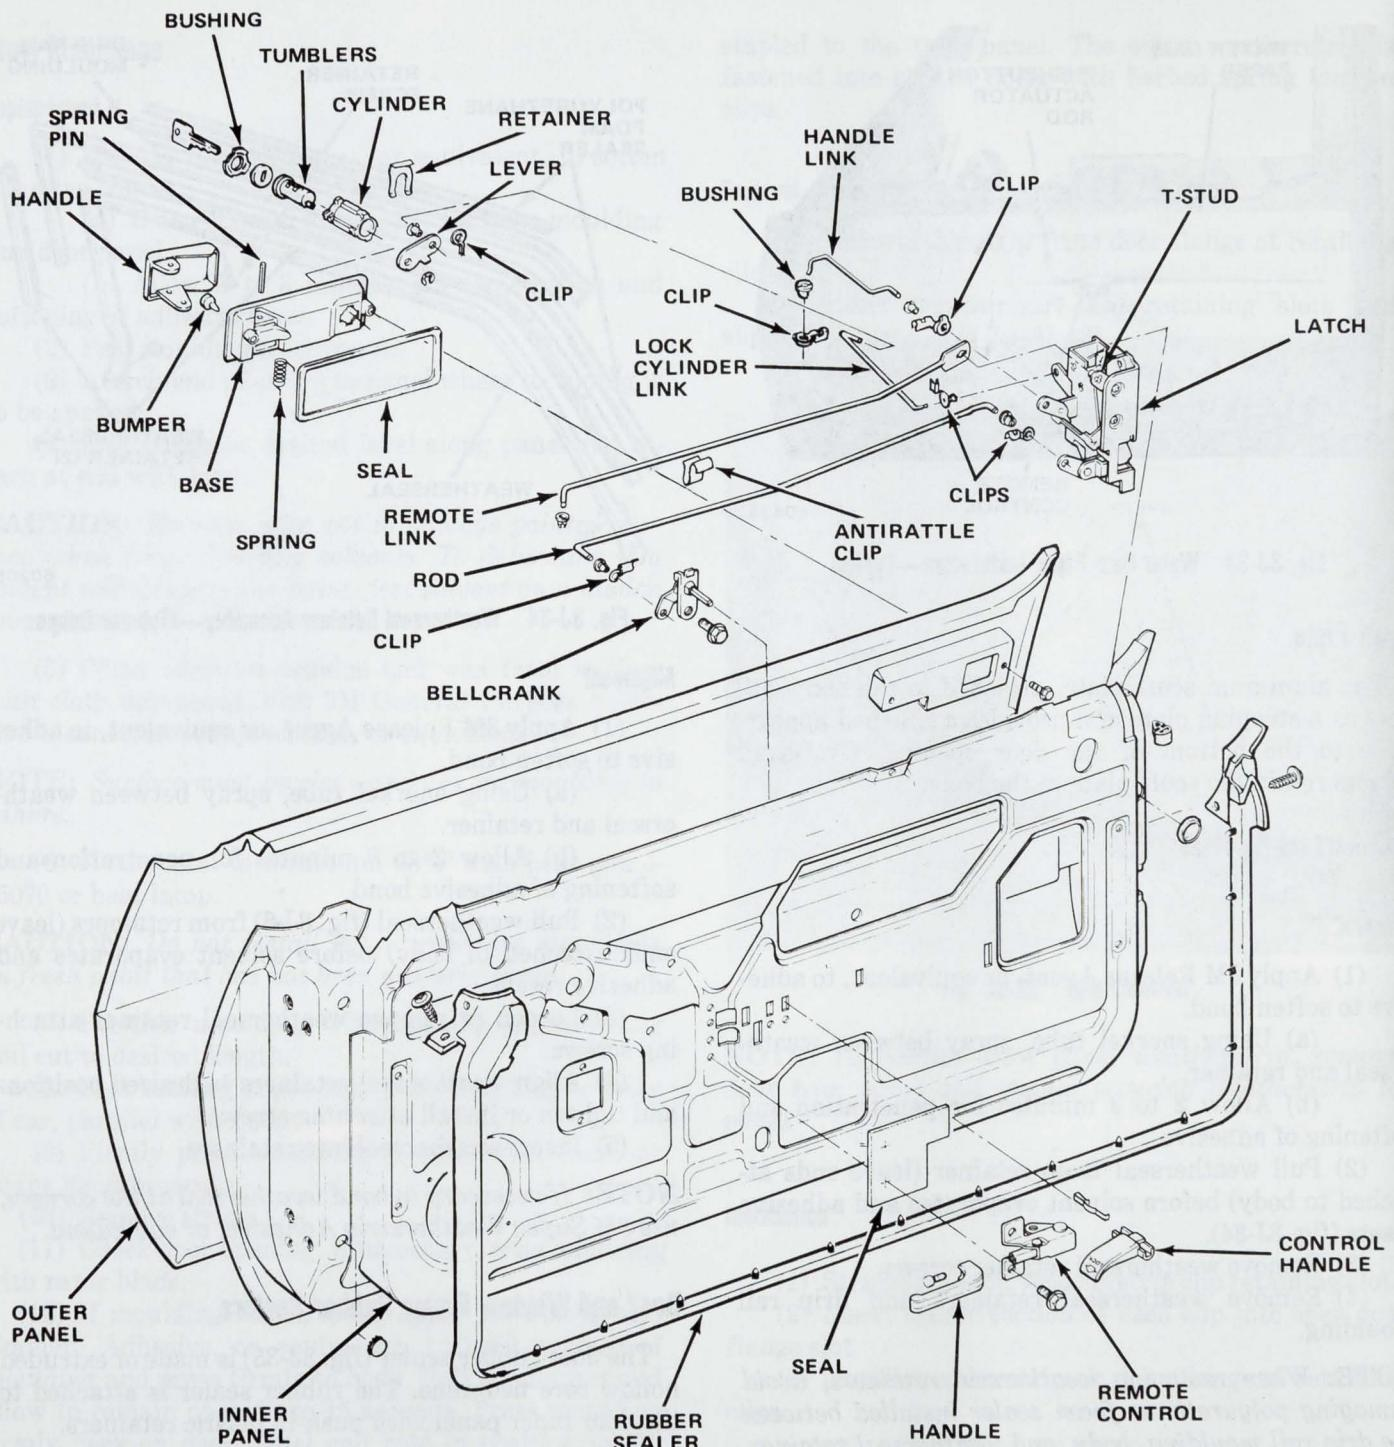

Fig. 3J-35 Door Components—Matador Coupe
- (1) Remove attaching hardware at front and rear upper edge of door.
- (2) Carefully remove rubber sealer (fig. 3J-35) from door using needlenose pliers to remove plastic retainers from door panel holes.